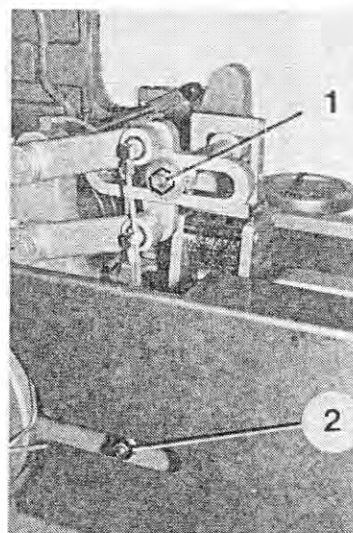

Fig. 234
2. To adjust the perforating facility in the moving sense of the wrapper, loosen the hex nuts (Figure 234/1+2) and relocate the perforating facility appropriately. Tighten the hex nuts.